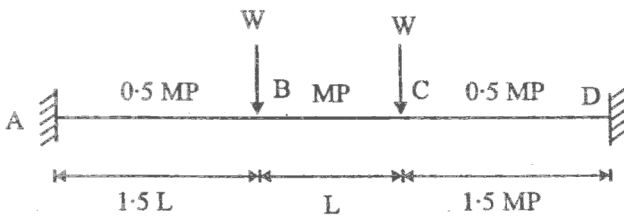

Fig. 3
- (b) A fixed beam is shown in fig. 3. Find the value of the collapse load. 10